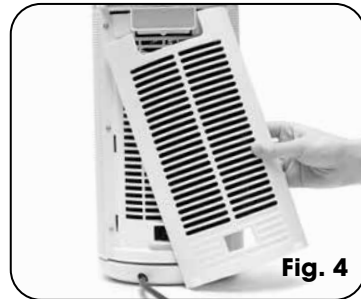

Fig. 4
- To access the filter, lift off the back grille using the two tabs at the base of the cover (Fig 4).